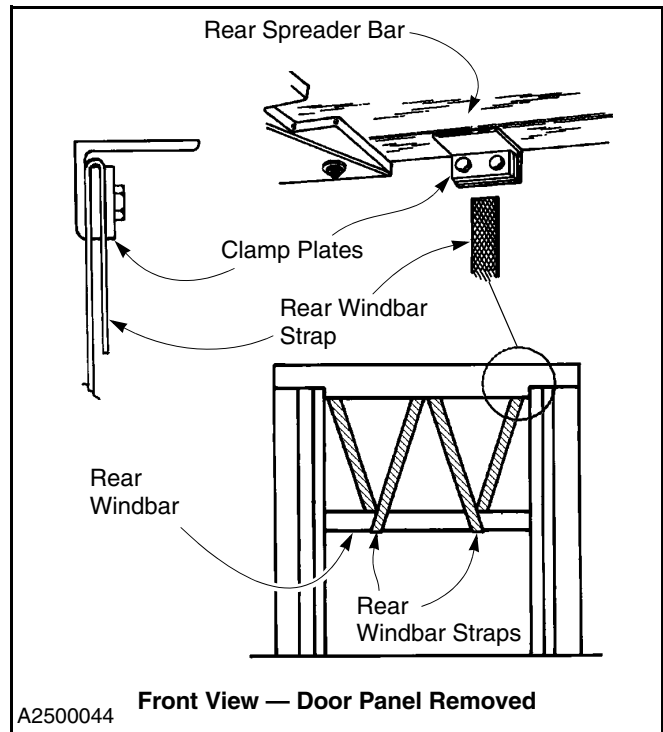

Figure 69
- Rear Windbar:** Route the straps under the rear windbar and up through the rear clamp plates located on the underside of the rear spreader bar. (See Figure 69.)